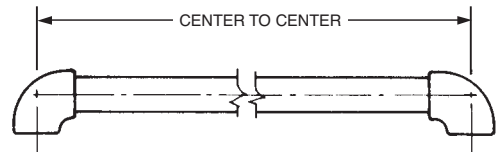

FIGURE 105
- ▶ 5. Pipe lengths are measured from center of fitting to center of fitting. See Figure 105.